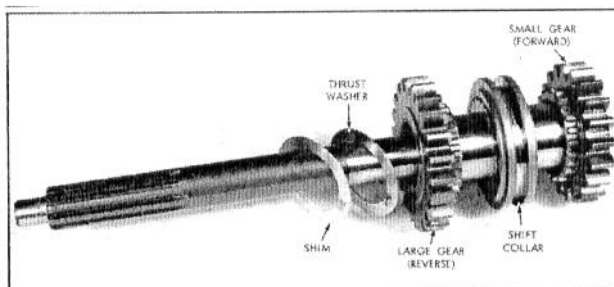

Fig. 10 - Input Shaft and Component Parts
2. Position the pinion gears on the main input shaft, with small gear teeth toward shift collar and larger gear forward. Fig. 10 shows gears, thrust washer and shim partially placed on shaft.